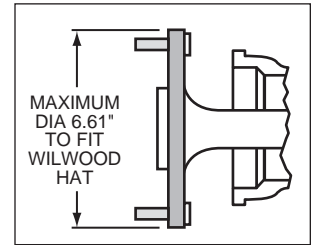

Figure 3. Axle Flange Maximum Dimension
- Axle center register diameter is 2.80", Figure 3.
- Maximum axle flange diameter must be no larger than 6.61" w/.050" x 45° chamfer, Figure 3.